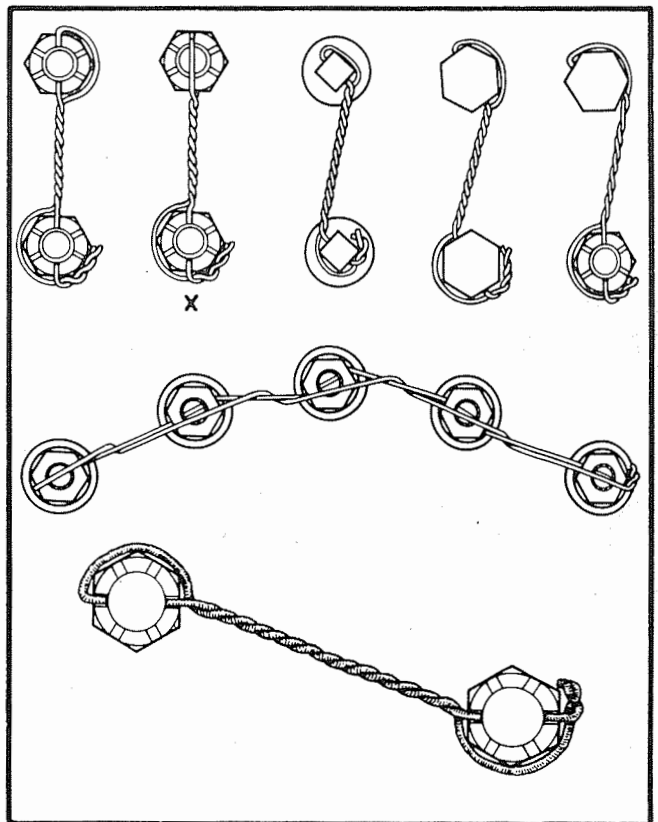

Figure 7-6. Lockwiring Parts of Various Designs
- c. Various designs of parts to be fastened together are illustrated in figure 7-6.
- d. The second view in figure 7-6, identified with an "X" shows the alternate locking procedure, to be used only when the favored procedure is impractical.